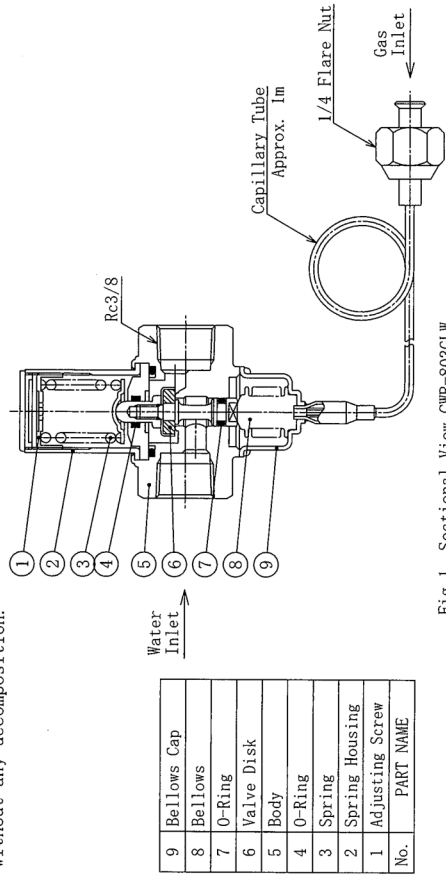

Fig. 1 Sectional View CWR-803GLW
In Fig. 1, when pressure increases in the bellows cap ⑨, the bellows ⑧ is contracted by the pressure, and the valve disk ⑥ is moved upward resisting to spring ③ and cooling water in the body ⑤ flows in direction of arrow mark.